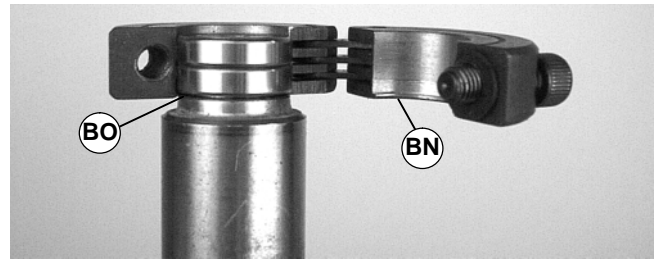

Figure 46
1. Place bearing removal tool (part # 450281) over bearing(s) with lip (BN of Figure 46) located in bearing gap (BO) as shown.